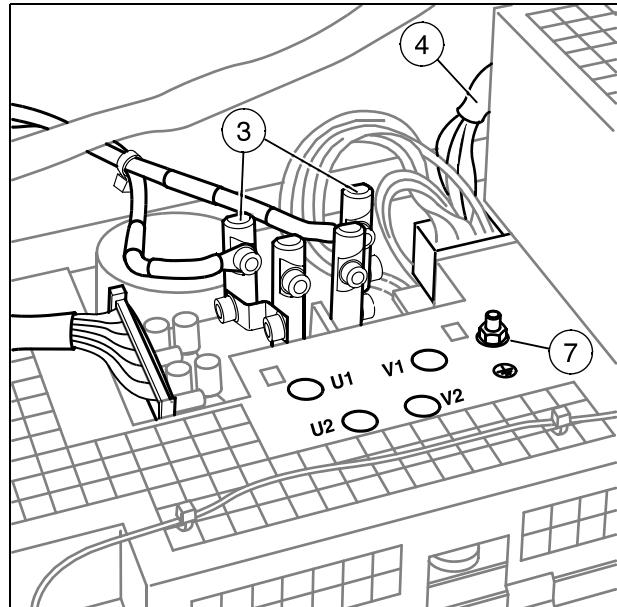

Fig. 51:
- Fasten twisted leads H1.U1 and H1.V1 from the inverter modules to H1 as designated (3/Fig. 51 / p. 45).
- Run the cable connected to D220.X41 (4/Fig. 51 / p. 45) upward to board D160 and connect it to X44. Clamp the shielding braid at the cable end with connector X44 under the prepared clip underneath board D100.
- Check the nut of the grounding bolt (7/Fig. 51 / p. 45) for firm seating and tighten it if necessary.